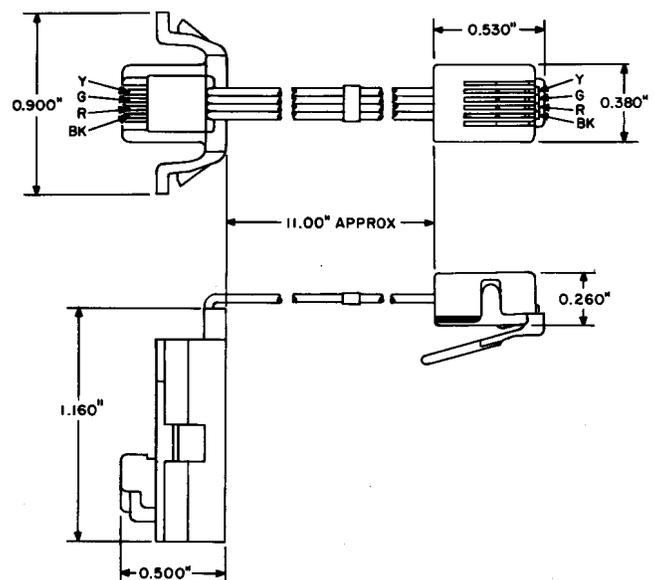

Fig. 8—523B Plug
2.08 523B: The 523B (Fig. 8) consists of a thermo-plastic, 4-conductor, snap-in plug with four leads, (red, green, yellow, and black), approximately 11 inches long. The 523B plug is to provide connections from the 960A01M and 2960A01M repertory dialers to the 630-type connecting blocks when converting a desk mounting to a wall mounting.